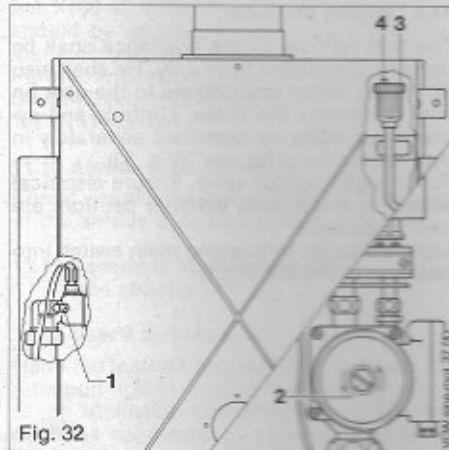

Fig. 32
For venting the boiler, back off the screw on the heat exchanger (1, Fig. 32) (see 13.4 to gain access) and the circulating pump (2) by about 1-2 turns.